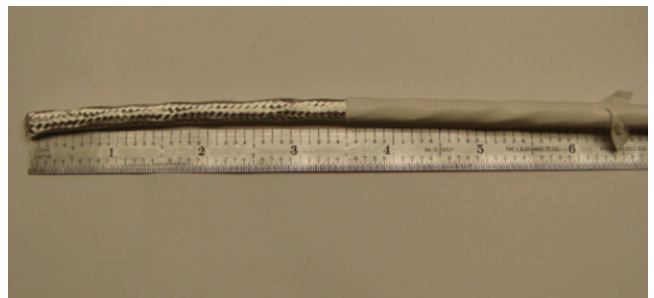

Figure 13: Exposing the braid
5. Using needle-nose pliers, gently pull the outer jacket down the cable until you have exposed approximately 3.5 inches of braid (Figure 13).